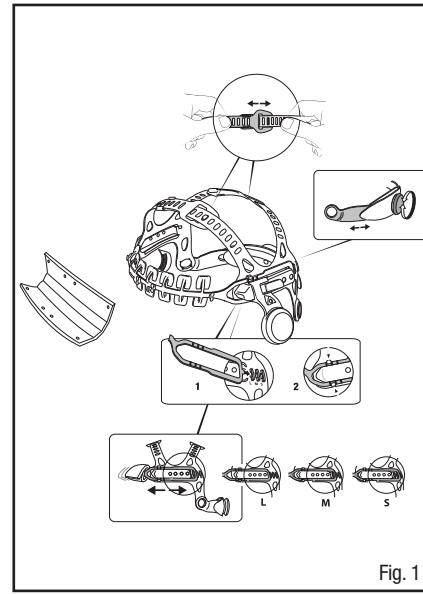

Fig. 1
1. Place the 3M™ Speedglas™ Welding Helmet 9100 FX-Air on the head and tighten the ratchet on the back of the headgear (Fig.1) until a comfortable, but secure fit is achieved. If a comfortable fit cannot be achieved using the ratchet alone, use the coarse adjustment of the front headband where the L, M, S adjustment are as shown in the bottom of Fig. 1. L refers to a larger head circumference, M is for medium head circumference, and S is for smaller head circumference. Adjust the coarse adjustment based on the head circumference, and then replace the helmet on the head and tighten the ratchet to achieve a comfortable but secure fit. For additional adjustment, the ratchet may also be turned 180 degrees to achieve a slightly different fit based on position as show in Fig. 2.
2. The 2 top crown straps should be adjusted to assure that the weight of the helmet is distributed and carried evenly on the top of the head. With the helmet on, and the ratchet tightened, check to make sure that both crown straps are adjusted so that there is no excess space or gaps between the top of the head, and the crown straps. At times the back crown strap may be too large, and cause a gap, but this is not an appropriate manner of wearing the helmet. If there is a gap, adjust the crown straps by sliding and tightening as shown in Fig. 1. If there is no gap, but the helmet feels as though it is too high on the head, loosen the crown straps until a comfortable height is achieved.